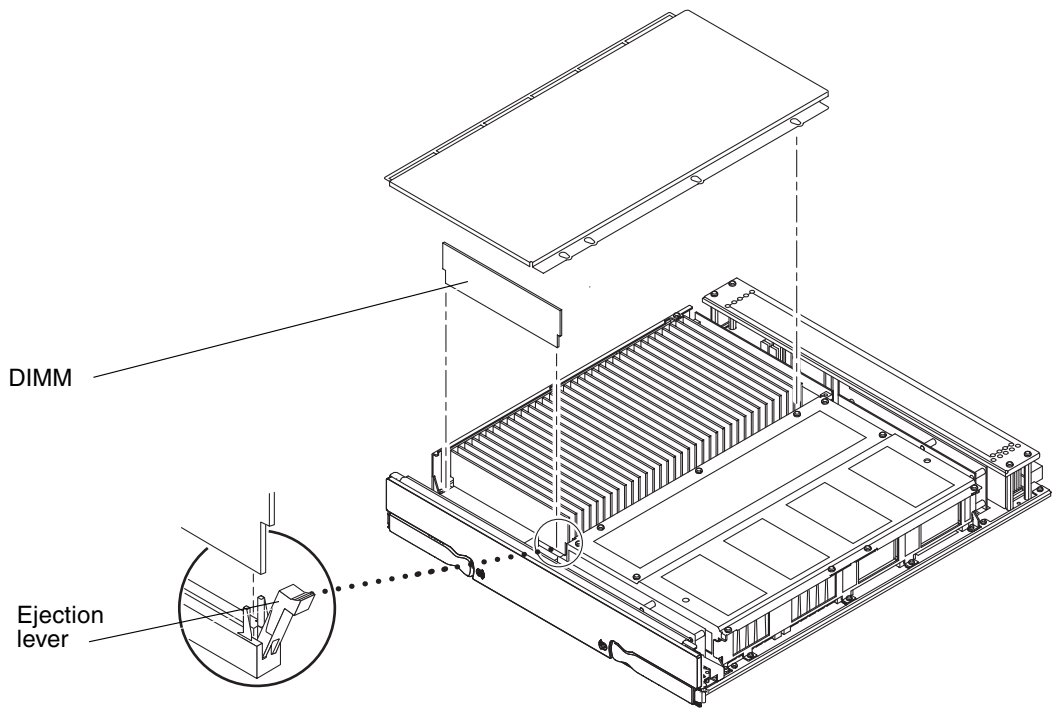

FIGURE 15-11 Removing a DIMM
5. Eject the faulty DIMM by pressing down on the ejection levers on both sides of the DIMM connector (FIGURE 15-11).